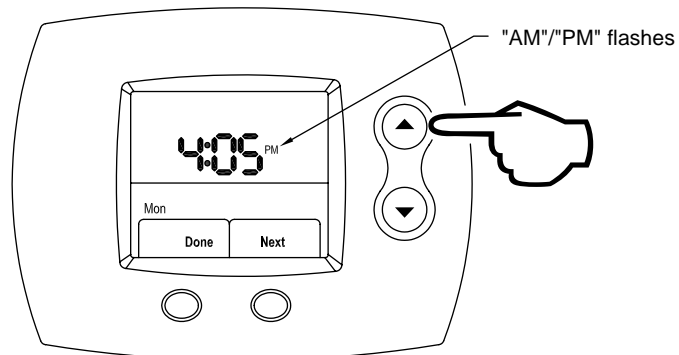

Figure 44
Step 7: Next, the AM / PM symbol will begin to flash. Using the **UP** (index AM / PM) or **DOWN** (index AM / PM) buttons, select AM / PM. See Figure 44.